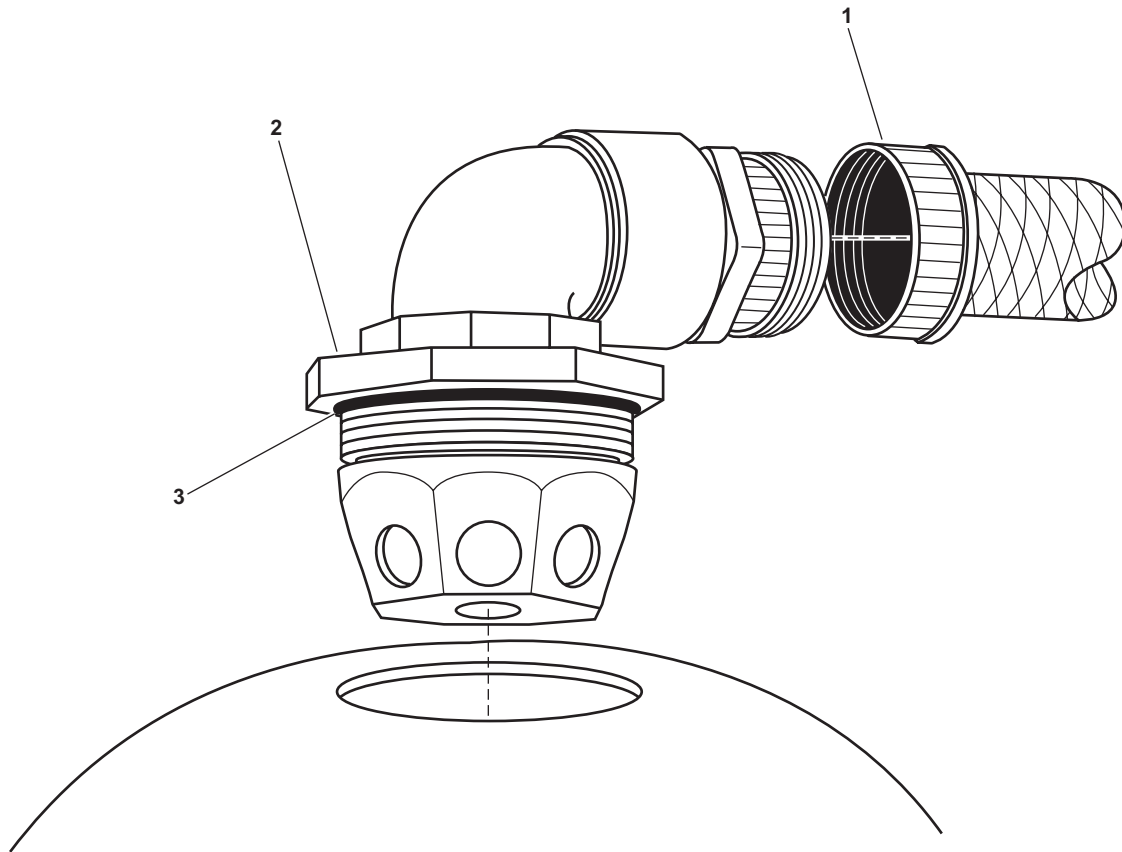

Figure 2. Media Filter
2. On top of the media filter, loosen and separate the inlet piping union (figure 2, item 1) from the inlet elbow (figure 2, item 2).
3. Remove the inlet elbow (figure 2, item 2) from the top of the media filter.
4. Remove and discard the o-ring (figure 2, item 3).
4. Lubricate a new O-ring (figure 2, item 3) with silicone lubricant and install the O-ring on the inlet elbow (figure 2, item 2).
5. Install the inlet elbow (figure 2, item 2) in the media filter.
6. Install the inlet piping union (figure 2, item 1) to the inlet elbow (figure 2, item 2).